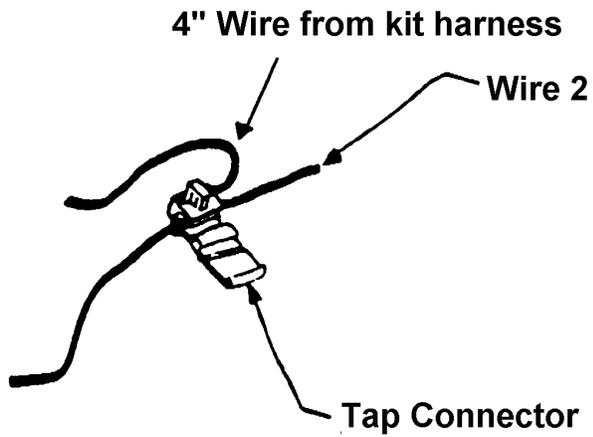

Figure 4
5. Use the 3M tap connector to connect the 4" wire to wire number 2 coming from the common position of the vend switch housing of the far left motor. See figure 4.